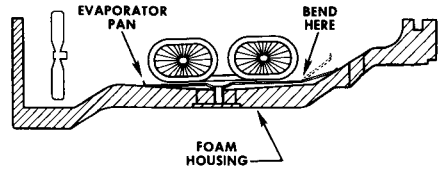

Figure 20 - Bend Drain Pan
2. Check the evaporator drain pan for proper fit to the evaporator housing. If the pan is "riding" up at the front, bend as shown in Figure 20.